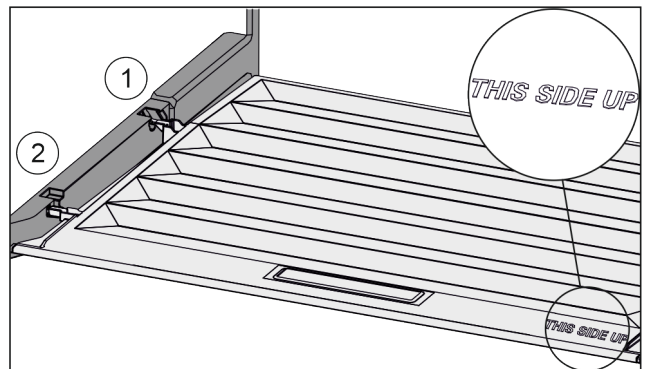

Fig. 143
- ▶ Insert the lip of the cover over the opening of the rear bracket Fig. 143 (1) and click into place Fig. 143 (2).